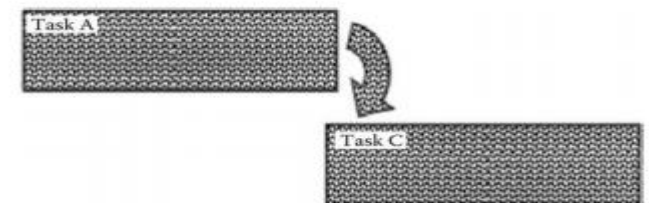

Figure 9.5 FS relationship.
- ❑ A schematic view of this type of relationship is shown in Figure 9.5.